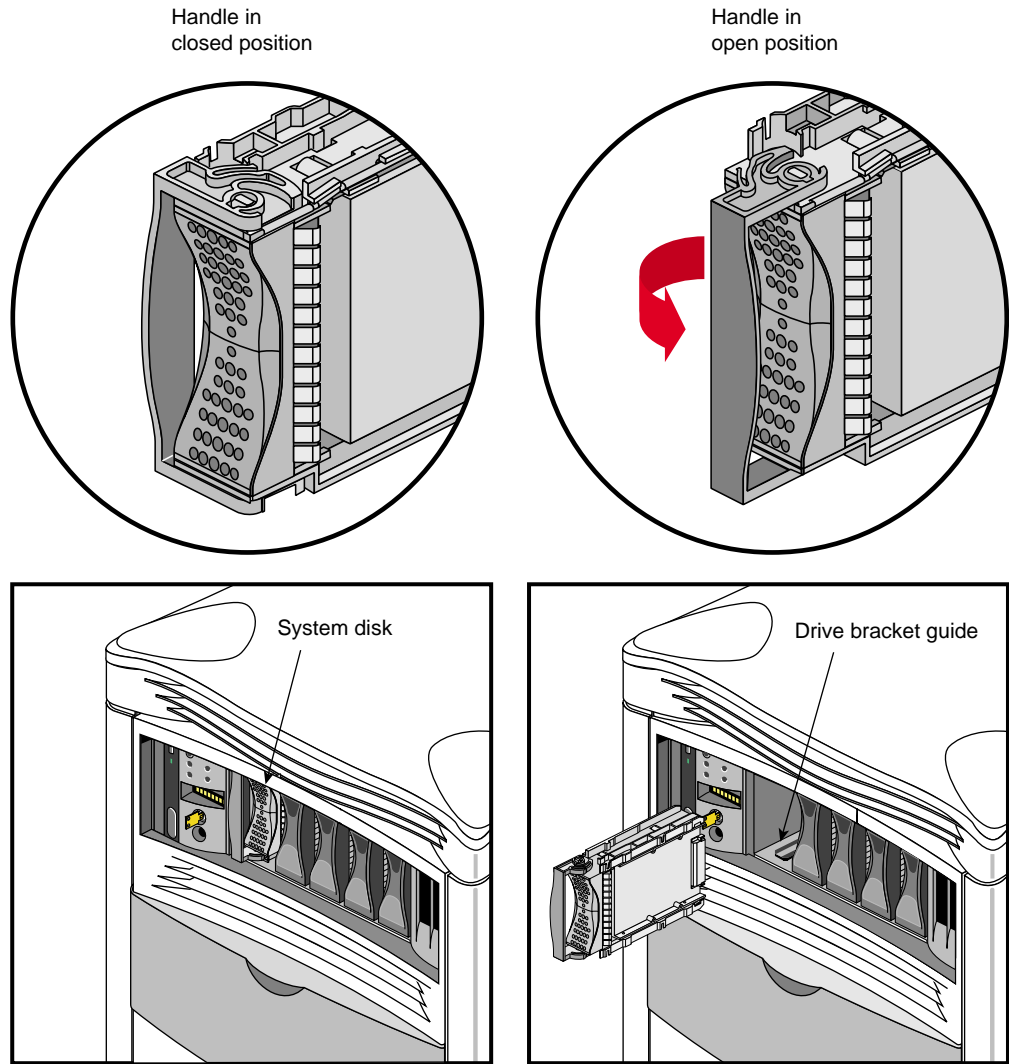

Figure 5-1 Installing or Removing the System Disk
2. Unlock the handle by moving it to the right (the handle is centered and in the open position, as shown in Figure 5-1). Note that the handle opens to the left in bays two through five; see the next section “Removing or Inserting a Data Disk.”